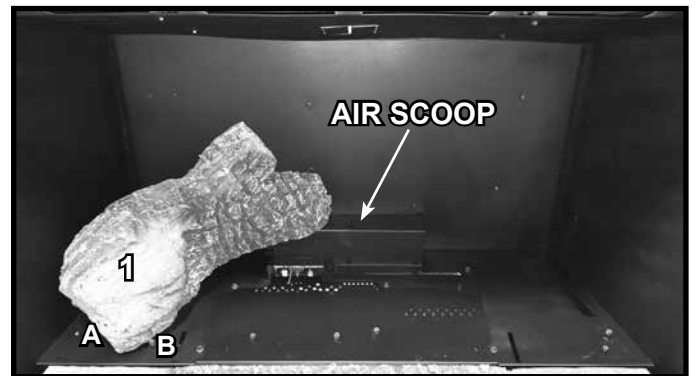

Figure 19 Log #1 Installed
**LOG #1:** Locate the cutout on the end of Log #1. The other end of Log #1 will set between log pins A and B. Rotate the cut-out end back until the cut-out fully engages the air scoop. See Figure 19.